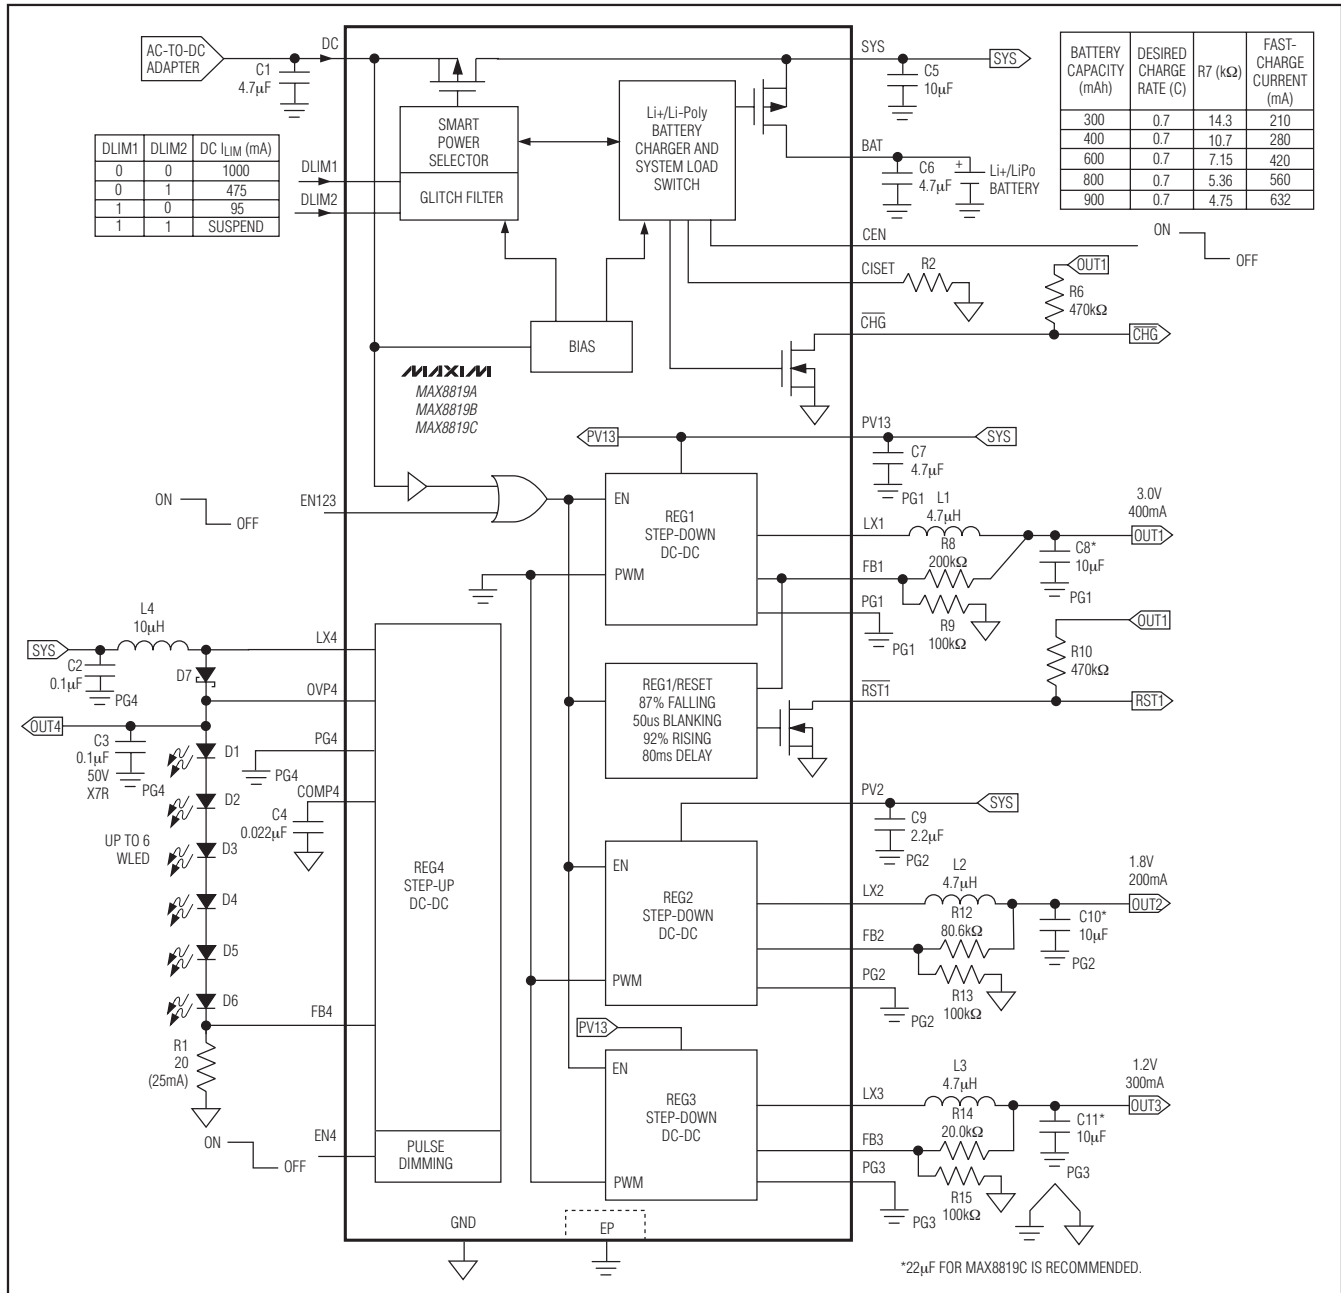

Figure 1. Functional Diagram/Typical Applications Circuit
**Note 8:** The skip-mode current threshold is the transition point between fixed-frequency PWM operation and skip-mode operation. The specification is given in terms of output load current for inductor values shown in the typical application circuit (Figure 1).
(Circuit of Figure 1,  $T_A = +25^\circ\text{C}$ , unless otherwise noted.)
The MAX8819\_ is a complete power solution that includes a battery charger, step-down converters, and WLED power. As shown in Figure 1, the IC integrates a DC power input, Li+/Li-Poly battery charger, three step-down converters, and one step-up converter for powering